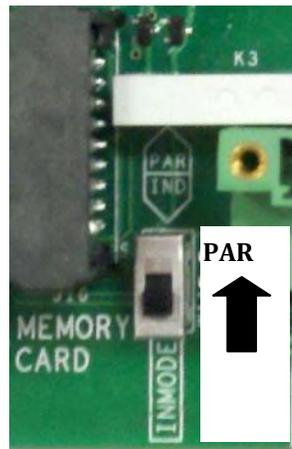

Figure 3.14a - Parallel Mode Configuration Switch
- Place the INMODE switch (shown in Figure 3.14a) in the “PAR” position to configure the inverter controls in parallel mode.
- Upon completion, re-install the front panel (apply 13.2 in-lbs of torque to each of the six (6) screws).